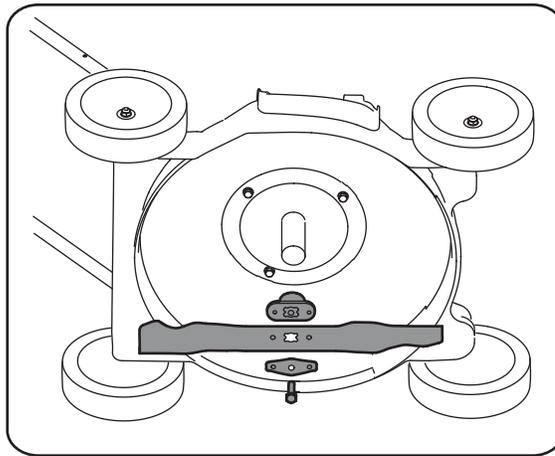

Figure 6-2
3. Remove the bolt and the blade bell support which hold the blade and the blade adapter to the engine crankshaft. See Figure 6-2.
9. Install the blade adapter on the crankshaft with the “star” away from the engine. See Figure 6-2. Place the blade with the side marked “bottom” (or with part number) facing away from the adapter. Align the blade bell support over the blade with the tabs in the holes of the blade and insert the hex bolt.